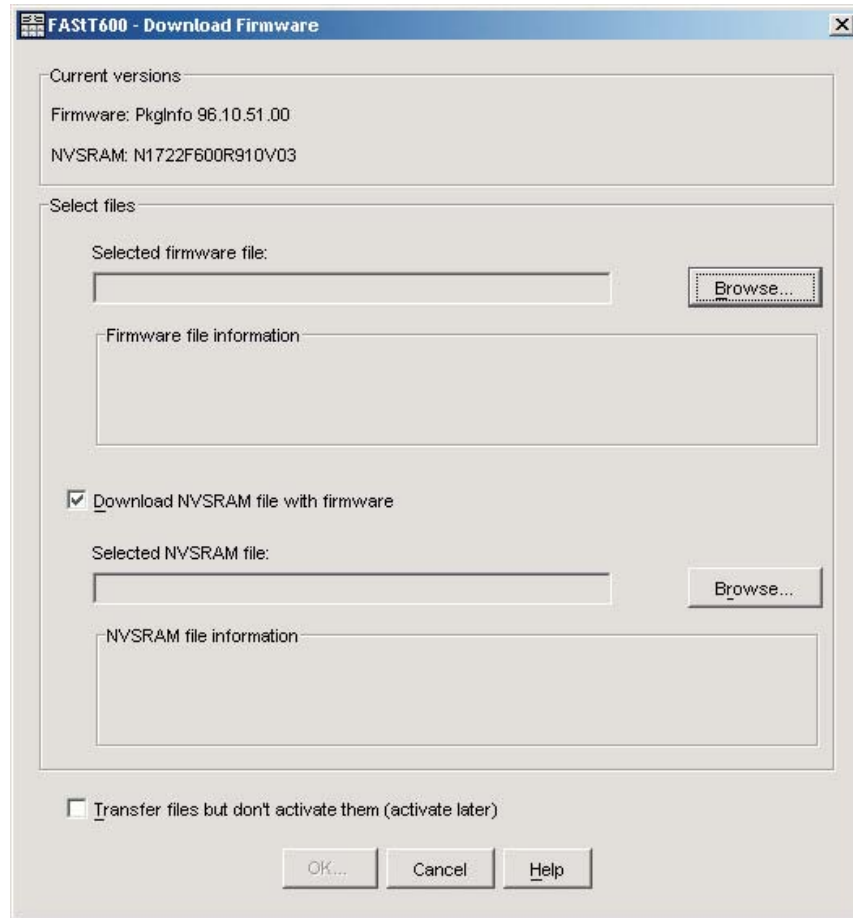

Figure 24. Download Firmware window
3. Click **Advanced** → **Maintenance** → **Download** → **Controller firmware....** The download firmware window opens as illustrated in Figure 24 on page 139.